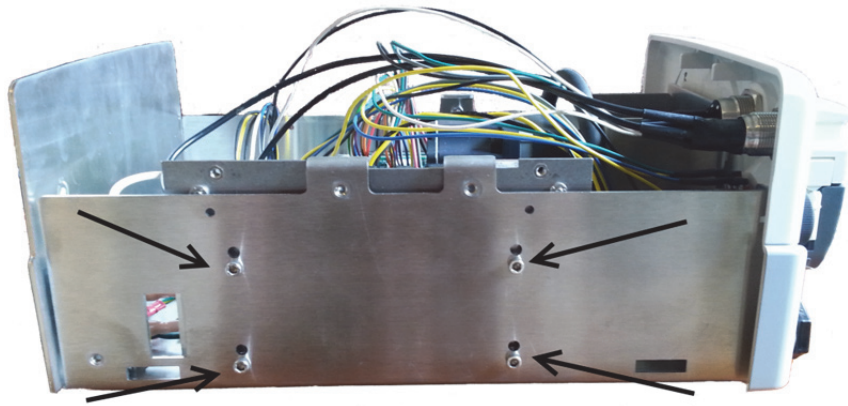

Figure 1
4. Remove the hex screws (4) that secure the Power Supply Mount to the chassis. See figure 1.